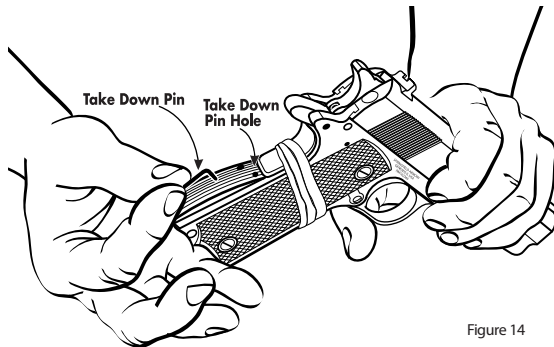

Figure 14
2. Wrap a heavy-duty rubber band around the grip safety until it is completely depressed. Doing so will maintain the alignment of the sear spring and negate further disassembly of the firearm. (Fig. 14)
4. Insert takedown pin into takedown hole. (Fig. 14)